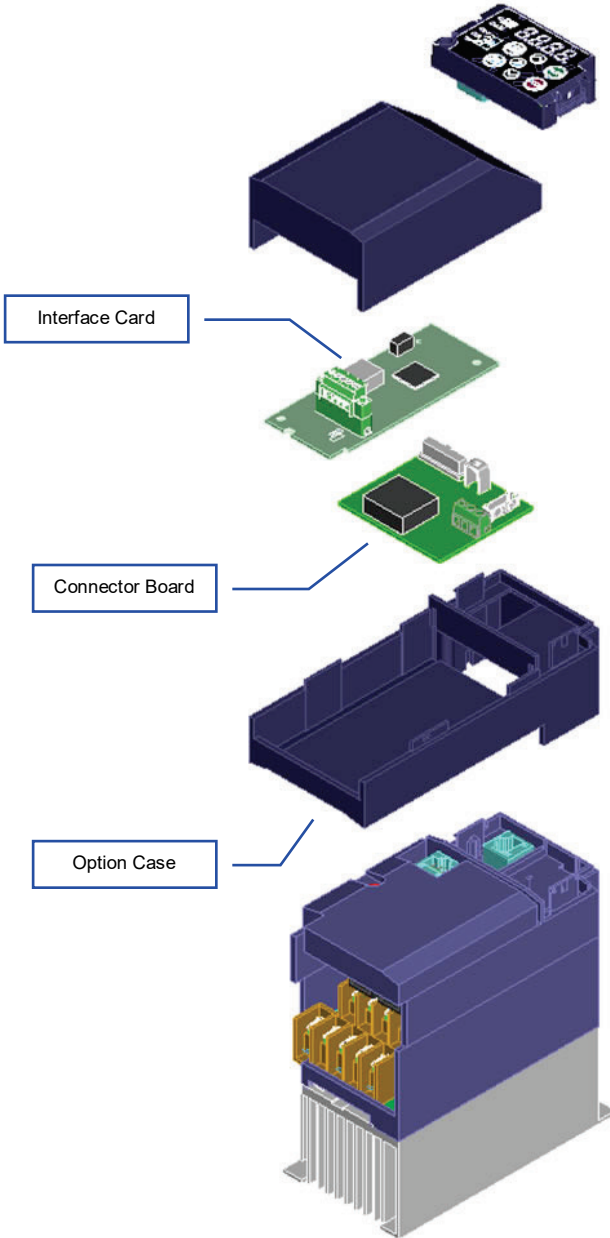
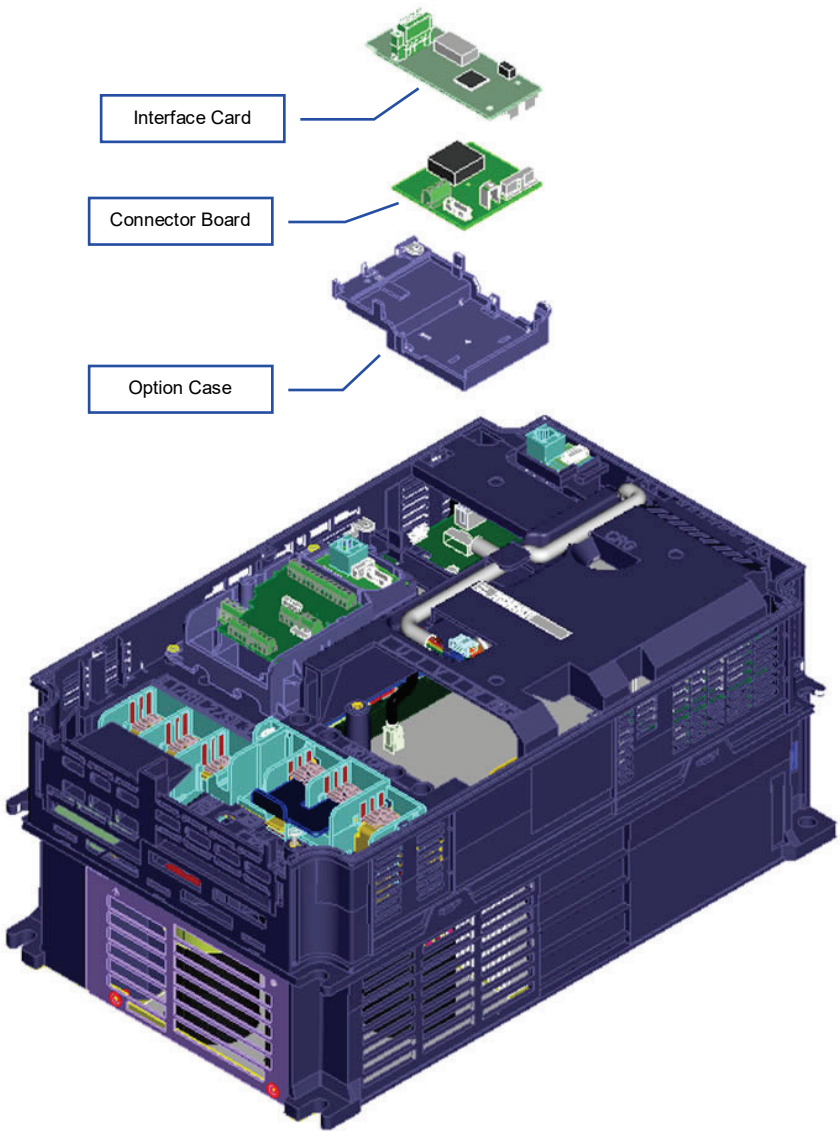
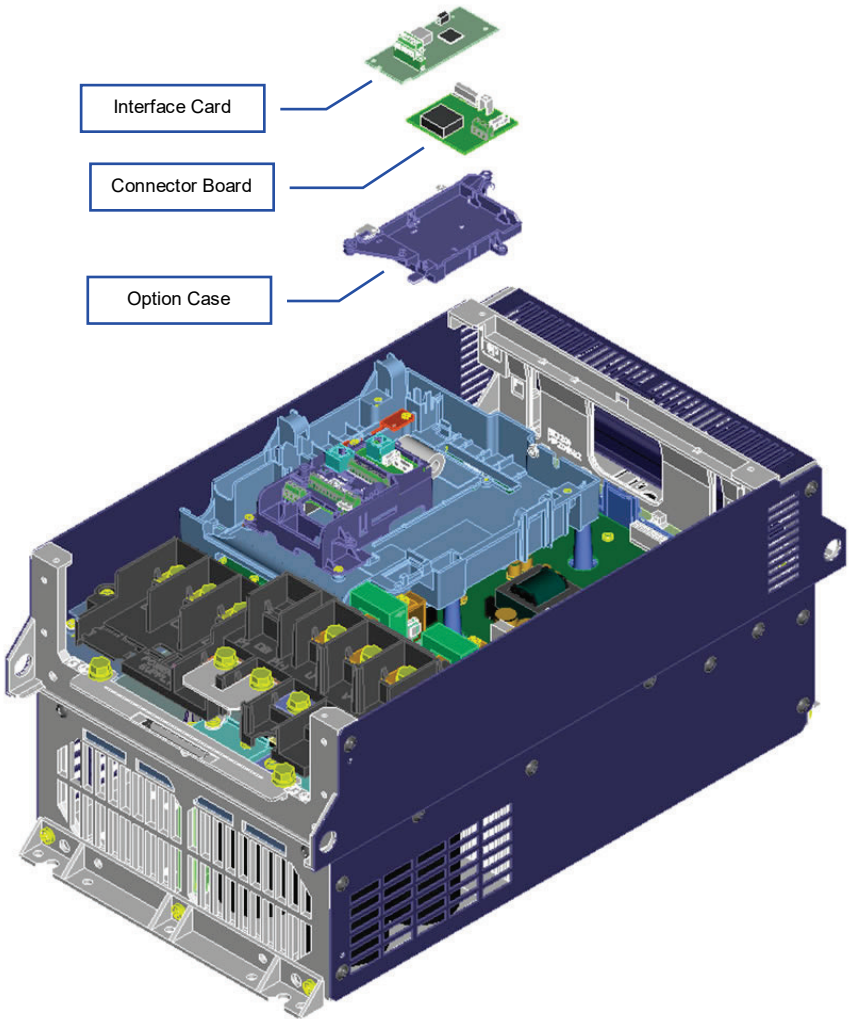

Figure 5: Installation for 15 kW and Smaller Inverters
Figure 6: Installation for 18.5 kW to 22 kW Inverters
Figure 7: Installation for 30 kW and Larger Inverters
1. Remove the front cover from the inverter to expose the control printed circuit board (control PCB). Install the interface card according to the inverter capacity as shown in Figure 5, Figure 6, or Figure 7. Otherwise, refer to the FRENIC-ACE Instruction Manual or contact Fuji for the appropriate installation instructions.